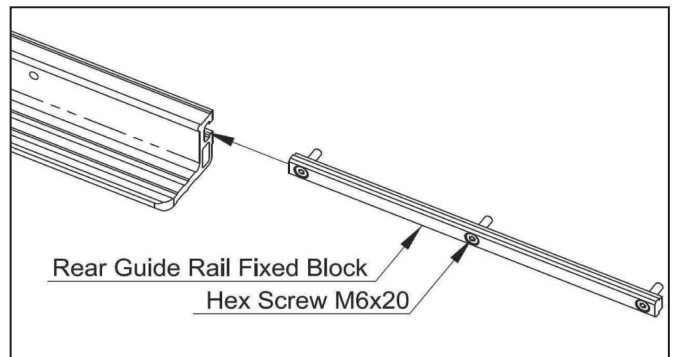

Fig. 6-9
2. As shown in **Fig. 6-9**, insert the hex screw M6x20 into the holes of the Rear Guide Rail Fixed Block (H). Slide the fixed block into the T-slot of the rear guide rail.